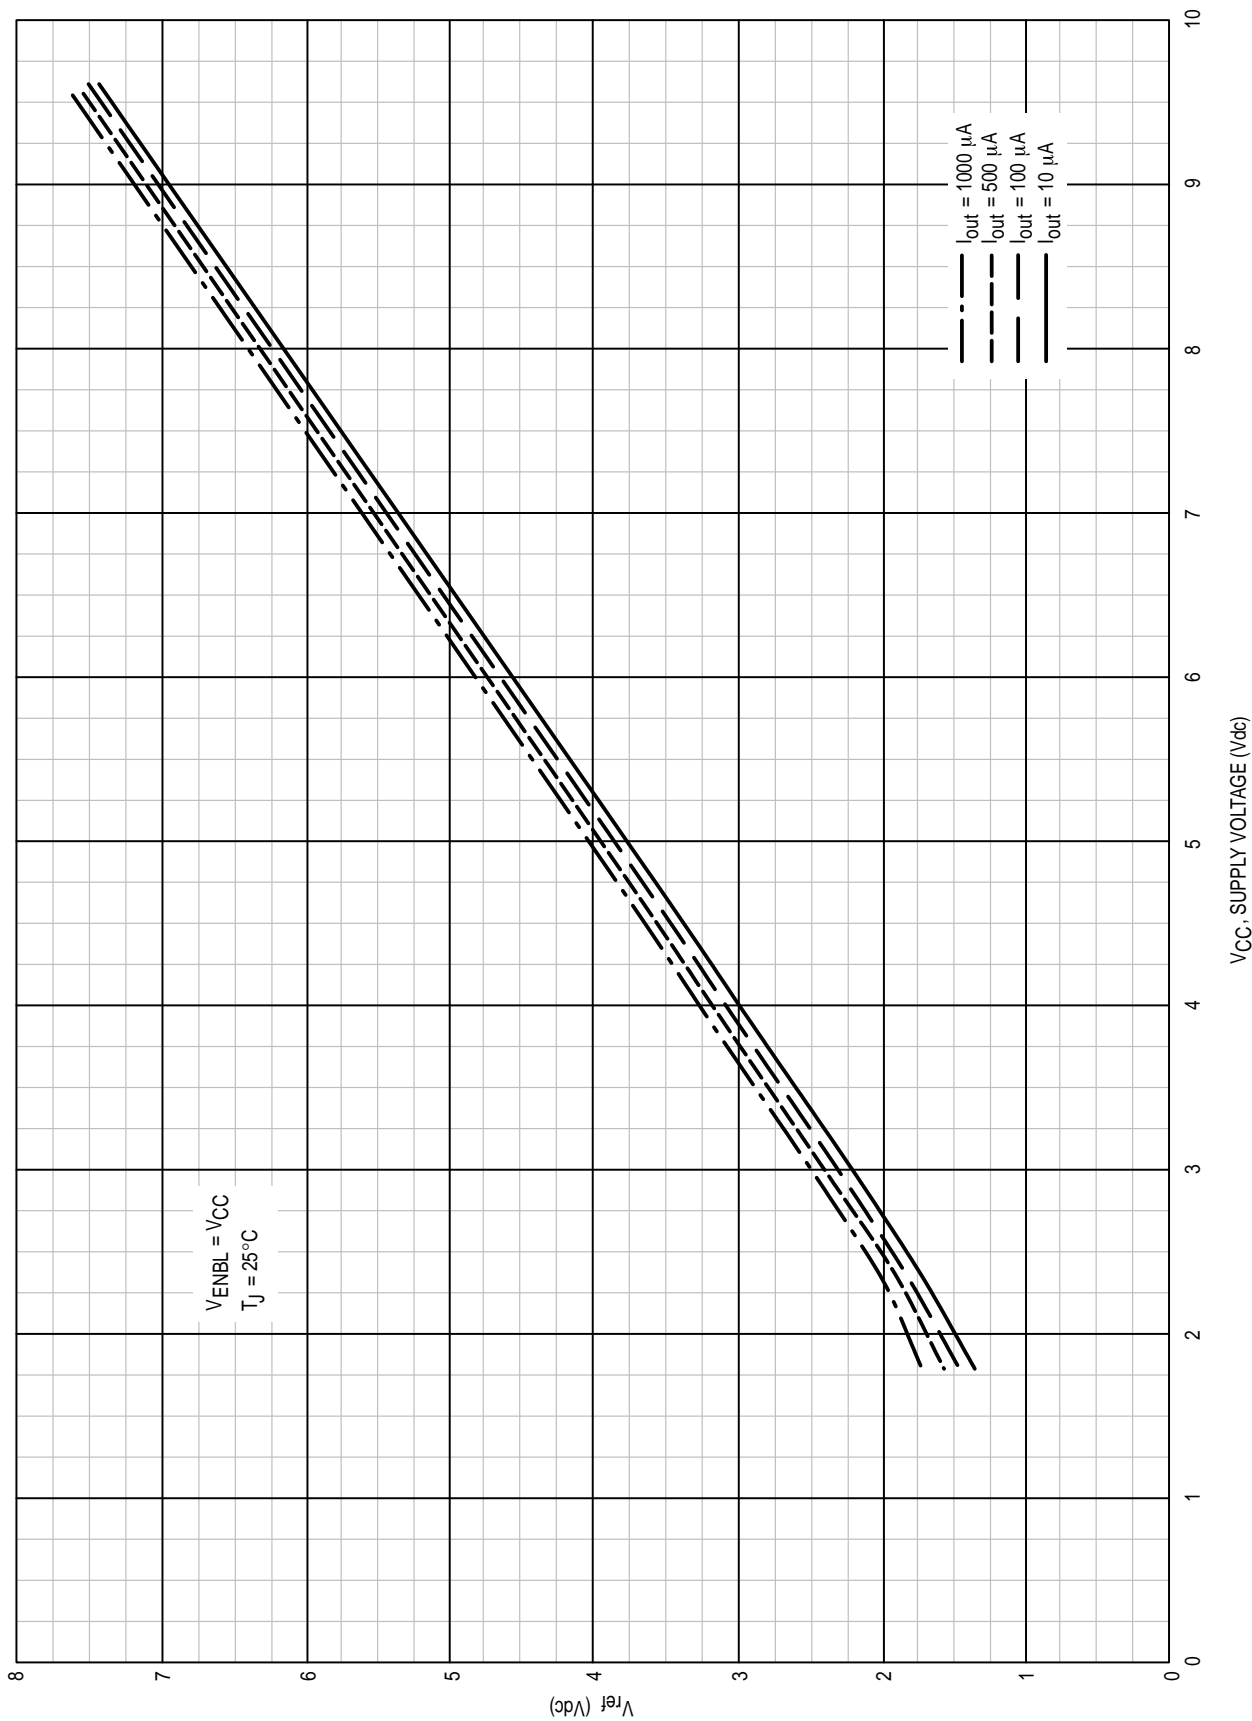

Figure 1.  $V_{ref}$  versus  $V_{CC}$  @  $I_{out}$
- Step 4: From Figure 1, read  $V_{ref}$  for  $V_{CC}$  and  $I_{out}$  calculated.
- Step 6: From Figure 1, read  $V_{ref}$  for  $V_{CC}$  &  $I_{out}$  chosen